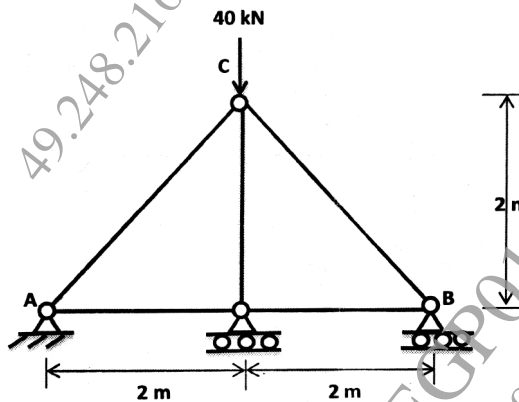

Fig. 6
- (b) Analyse the truss shown in Fig. 6. Take constant AE . [6]